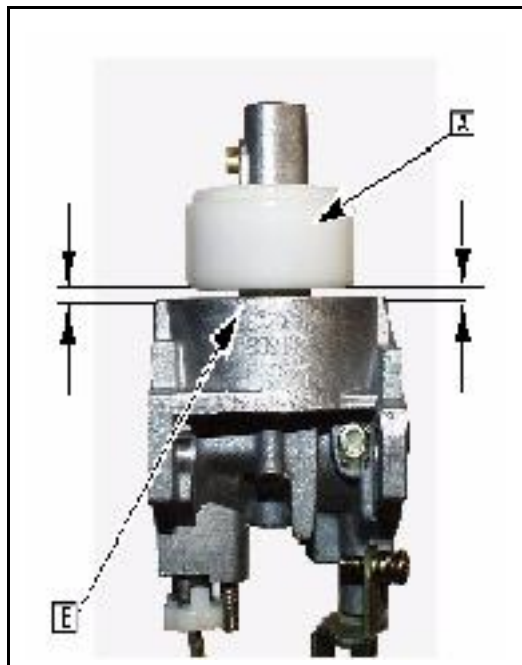

Fig. 47
**NOTE:** The float (A) should be parallel to the float bowl mounting surface ([B] Fig. 47).